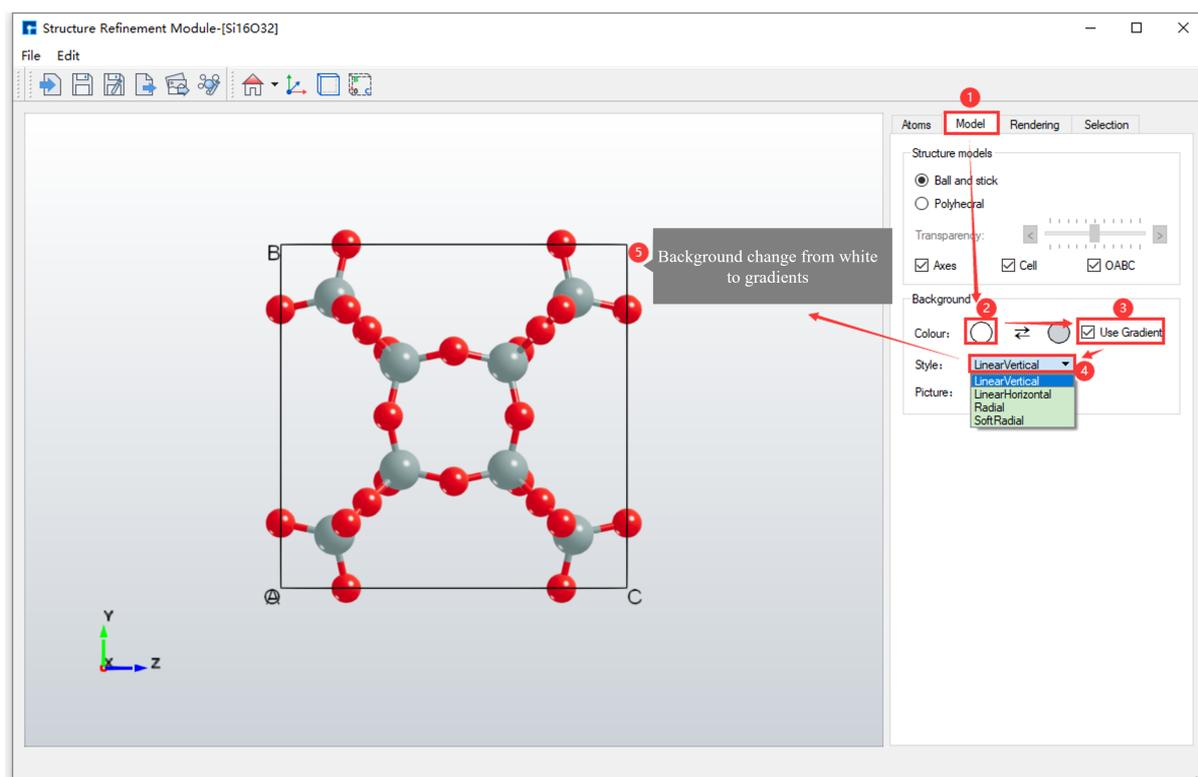

fig. 6.29: The interface displays the modification of the **background color** of the Si16O32 crystal structure from **pure white** to a **gradient effect**.
2. As shown in fig. 6.29, this is the interface for changing the background color of the displayed Si16O32 crystal structure from **pure white** to a **gradient effect**.
- Based on fig. 6.29, click the dropdown button in area ④ of fig. 6.29 to select the gradient type for the background color.